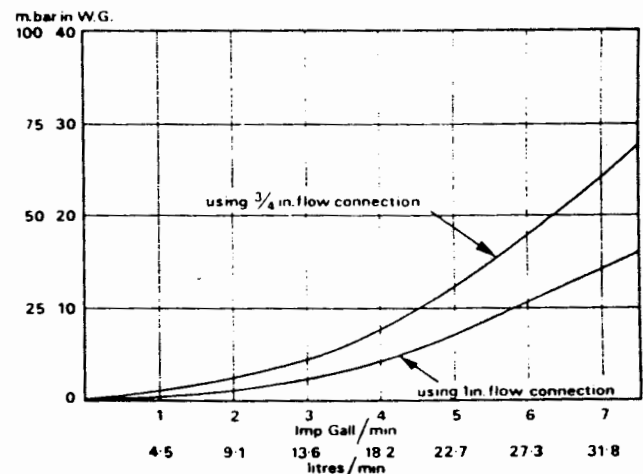

FIG. 1 PRESSURE LOSS ACROSS BOILER BOILER BASE
6. The circulating pump should be selected with reference to fig. 1. The resistance through the boiler heat exchanger will not exceed 31 mbar (12.5 in. wg.) at a flow rate of 5.0 gall/min.